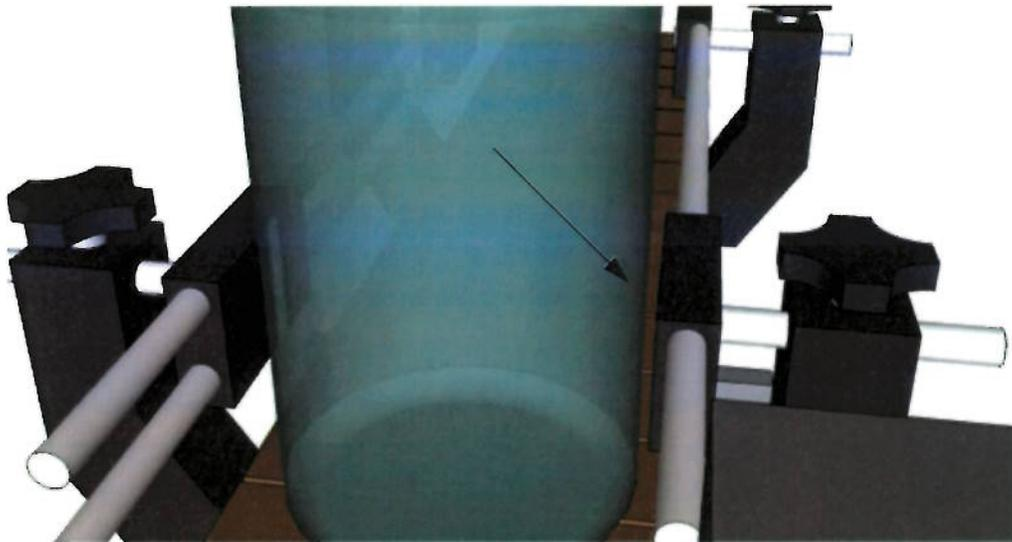

fig.18
- Conveyor belt sides at the exit of the machine: a space of more than 2 mm can be left without jeopardizing the container stability (fig.18).